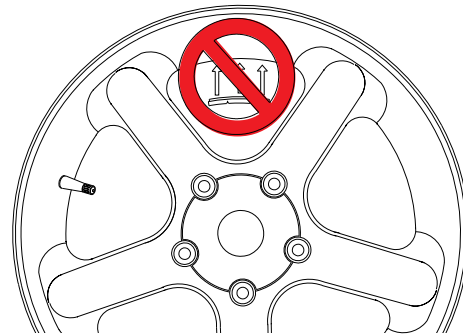

Figure 34
A standard dynamic balance places compensation weight in two planes, inner and outer, at the top dead center 180 degrees of each plane of calculated imbalance. Sometimes the outside weight placement may be unsightly on a custom wheel. See Figure 34.
6. The display will read “**SPO 1**”. Locate the first spoke nearest to top dead center and rotate the wheel so that spoke is at top dead center. See Figure 34. Press **F** to store first position.